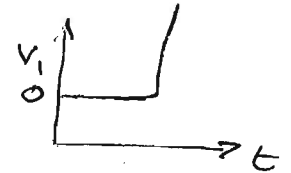

FIGURE E3.17
A submarine moves through the seawater ( $SG = 1.03$ ) at a depth of 50 m with velocity  $V_0 = 5.0$  m/s as shown in Fig. E3.17. Determine the pressure at the stagnation point (2).